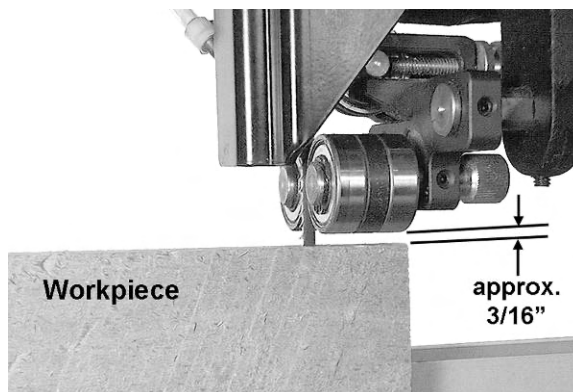

Figure 9-1
2. Adjust blade guide assembly so that the guide bearings are just above workpiece (about $3/16$ ") allowing minimum exposure to blade. See Figure 9-1.